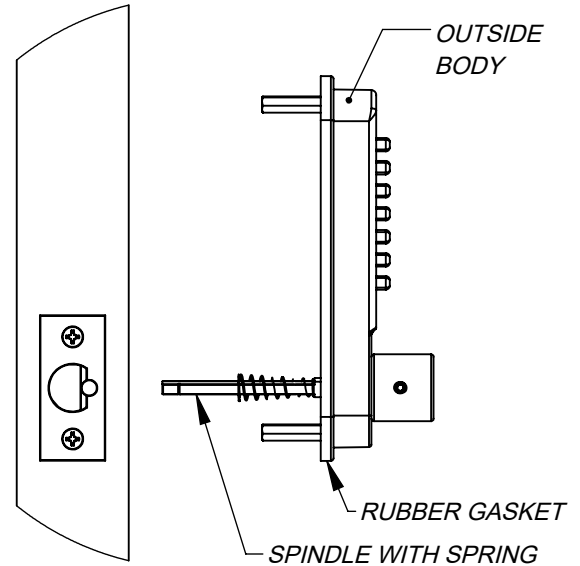
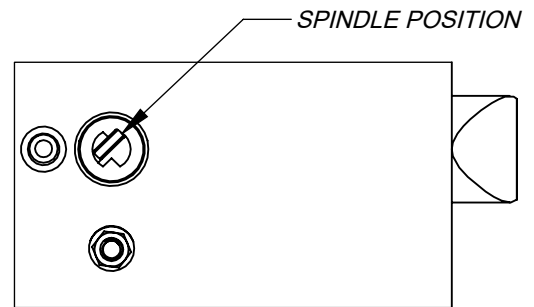

Figure 9
Figure 10
7) From the outside of the door, insert the spindle through the latch bolt in the correct position. Place the rubber gasket onto the back side of the outside body and hold the body/gasket against the door in the proper location, with the end of the spindle inserted into the spindle hole of the outside body (Figure 9). The spindle should stick out of the inside face of the door at a distance of 5/16". If necessary, cut the spindle to the proper length. Make sure the top side of the spindle is angled toward the face plate of the latch bolt (Figure 10).